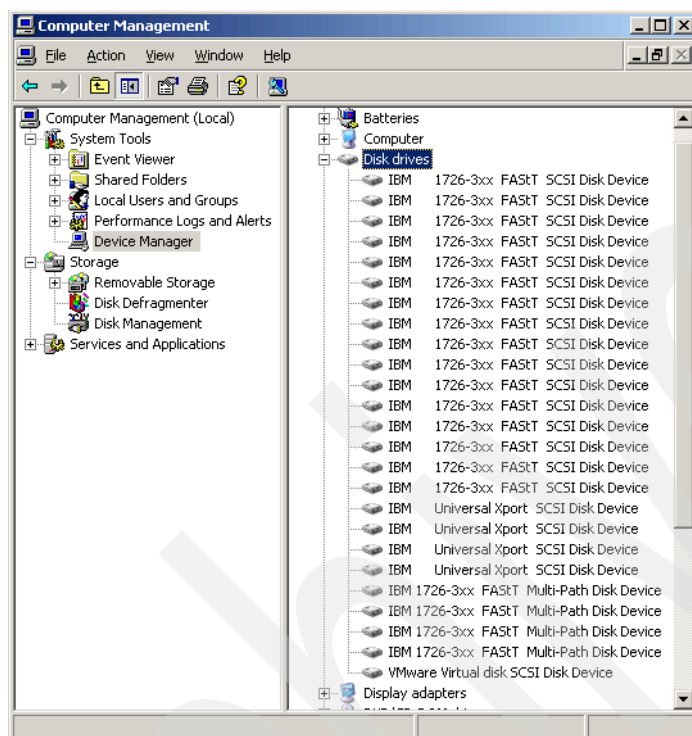

Figure 23-36 Windows Device Manager
13. Figure 23-36 shows the disks as they appear in Device Manager after all connections are made. The two network interface cards are connected each to two iSCSI ports of the DS3300. Four logical drives are configured on the DS3300 that are visible over each port. That adds up to 16 IBM 1726-3xx FAST SCSI Disk Devices in the Device Manager. Each iSCSI port of the DS3300 also provides, by default, the Universal Xport SCSI disk device, which is also seen four times. The multipath driver presents four IBM 1726-3xx FAST Multipath Disk Devices to the host that can be used to create partitions in the next section.